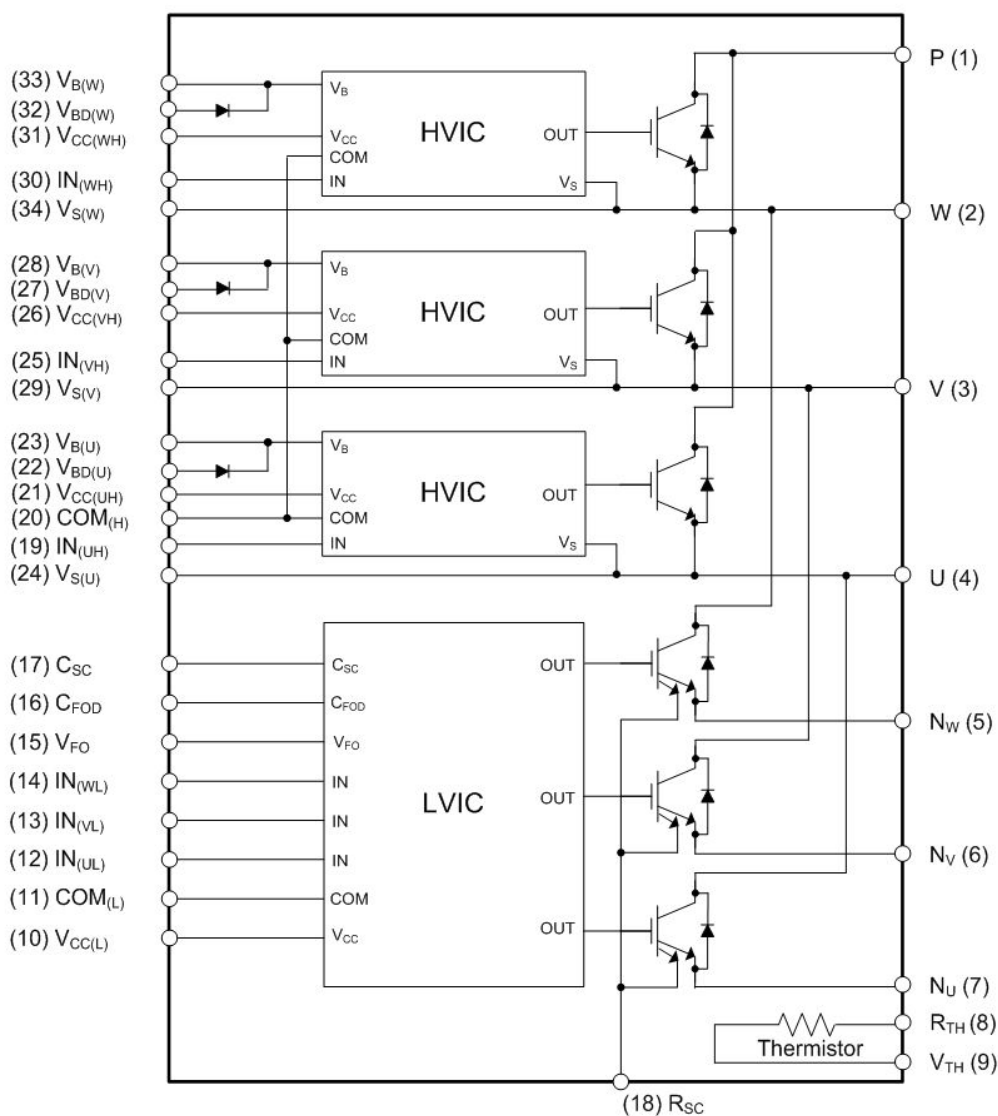

Figure 3. Internal Block Diagram
- 1200 V - 35 A IGBT inverter for three-phase DC / AC power conversion (*refer to Figure 3*)